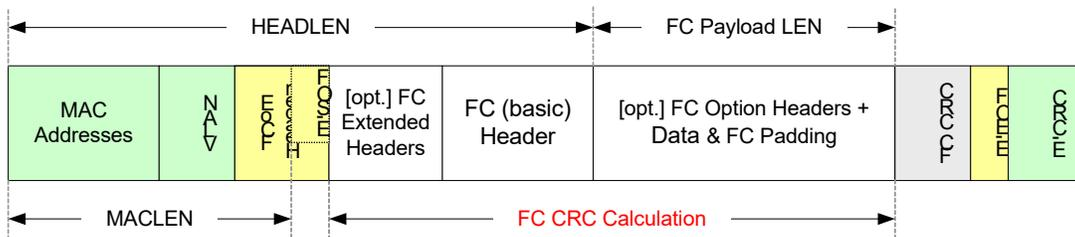

Figure 7-46. FCoE Frame and Relevant Transmit Descriptor Parameters
The size of FCoE payload on which FC CRC is calculated is indicated in the context and data descriptors as follows. Figure 7-46 specifies the FCoE frame and the relevant parameters to CRC calculation.
FC CRC calculation ends at the end of the FC Payload LEN shown in Figure 7-46 (eight bytes before the Ethernet CRC).
- The frame header includes the Ethernet MAC Addresses, VLAN Tag, FCoE header, and the FC header. The header size is defined by the *HEADLEN* and *MACLEN* in the context descriptor as illustrated in Figure 7-46.